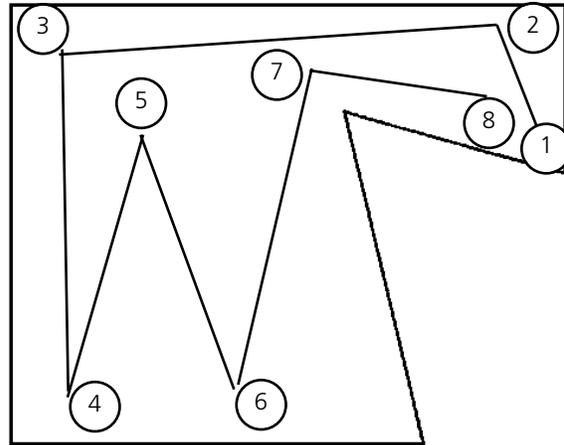

Figure 3-52
5. Position the tablet cursor in the area in the shape identified as location 1 in Figure 3-52 and enter a Mk1.
7. Generate the routine lock stitches, then to keep the material from puckering or migrating during the fill stitching, put down a running stitch underlay by entering Mk1s at locations 2 through 8 as shown in Figure 3-52.